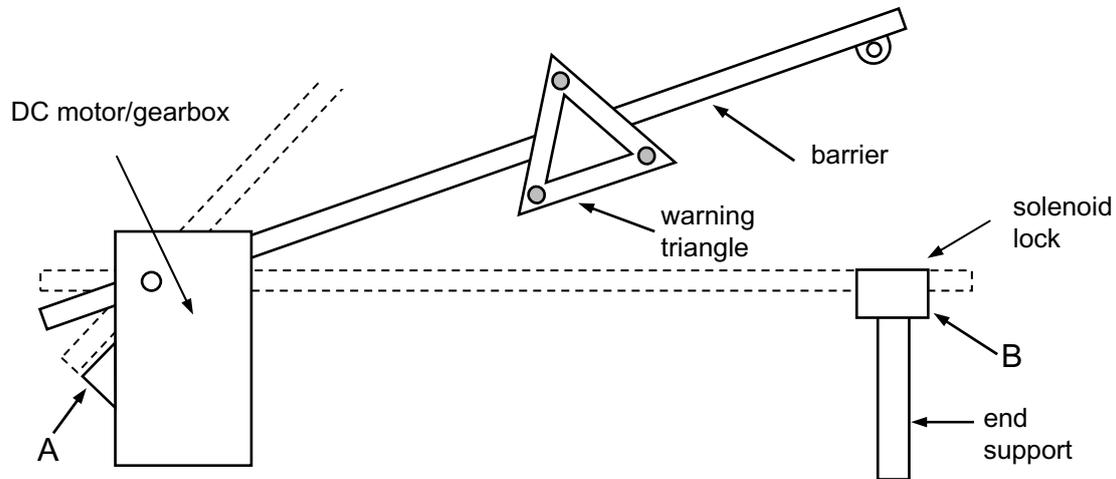

Fig. 2(a)
- 2 (a) A prototype design for a security barrier is shown in **Fig. 2(a)**. The barrier which has a warning triangle attached is raised and lowered by a 12 volt DC motor and gearbox. Limit switches are positioned at A and B to determine when the barrier is fully up or down. The end support also contains a 12 volt solenoid operated lock to prevent anyone from trying to lift the barrier.
- (i) Name and draw a suitable non contact type switch that could be used to determine the limits of movement of the barrier at positions A and B in **Fig. 2(a)**. [2]
- (ii) State **two** advantages (other than cost) of using a DC motor rather than a stepper motor for raising and lowering the barrier shown in **Fig. 2(a)**. [2]